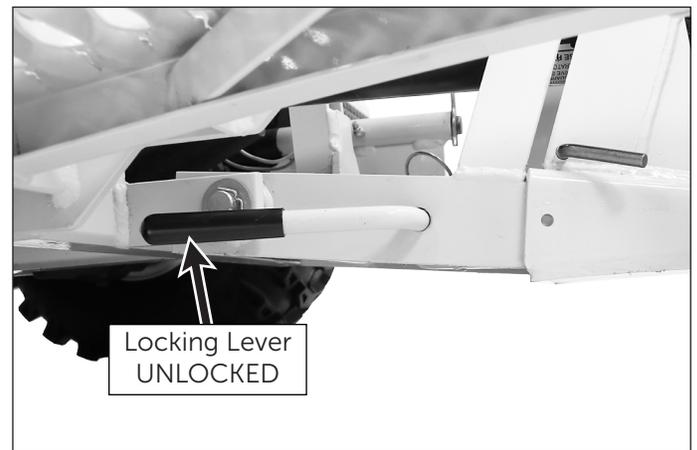

Figure 2.6: Hitch Lock Lever in "UNLOCKED" Position
- **Removing:** Remove the linch pin from the latch and move the hitch lock lever backward to the **UNLOCKED** position as shown in Figure 2.6.